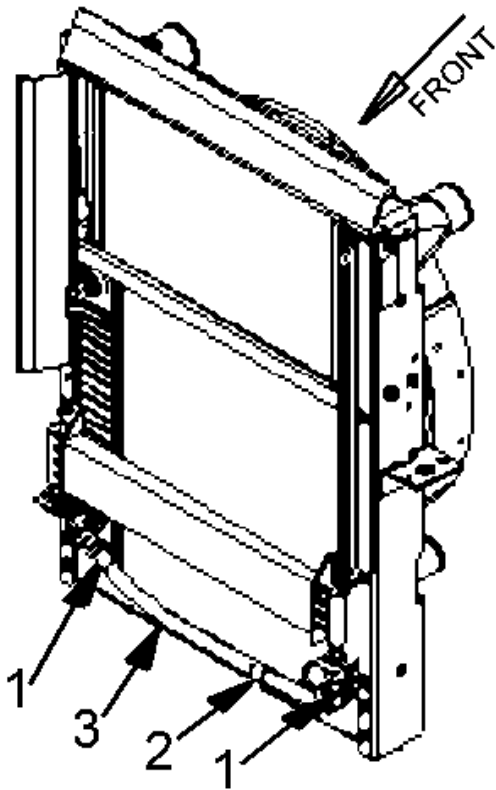

Figure 2 Transmission Cooler Jumper Hose Location and Components
2. Position a suitable clean container below the jumper hose flare fitting on the passenger entry side of the bus. Disconnect the jumper flare hose fitting (Figure 2, Item 1) and allow the transmission fluid to drain into the container.
3. Remove the p-clip (Figure 2, Item 2), disconnect the remaining hose flare fitting and remove the jumper hose.